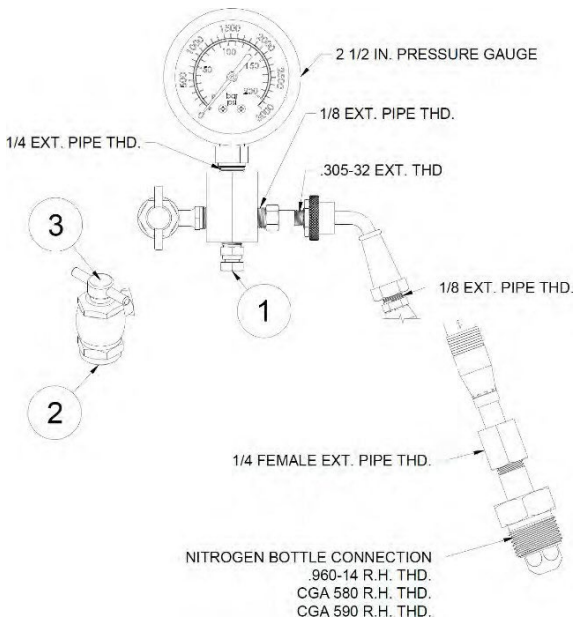

Figure 9: Charging Kit
3. Add nitrogen using appropriate charge kit (REXA part number K09851-3000). See Figure 9 below. Using the Pre-Charging Procedure, DOC134, add nitrogen until the pressure reaches what is shown on the bottle tag (typically 1900 psi) shown in Figure 10.
Back out the gas chuck "T" handle (Figure 9: Item 3) all the way (counterclockwise) before attaching charging assembly to accumulator gas valve.
Close the bleed valve using a 7/16" wrench (Figure 9: Item 1).
Attach swivel nut to gas valve (Figure 9: Item 2) and tighten to 11-16 in-lbs. using an 11/16" wrench. Make sure not to loop or twist the hose.
When finished pre-charging the accumulator, turn "T" handle all the way out on the gas chuck (Figure 9: Item 3), then open the bleed valve (Figure 9: Item 1).